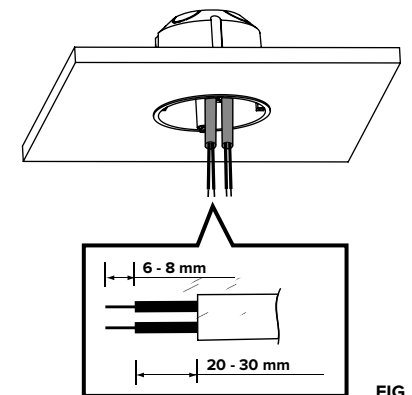

FIG. 6
2. Pull the wiring out of the main distribution point and strip and remove the insulation from the wiring 6 to 8 mm (see FIG. 6).